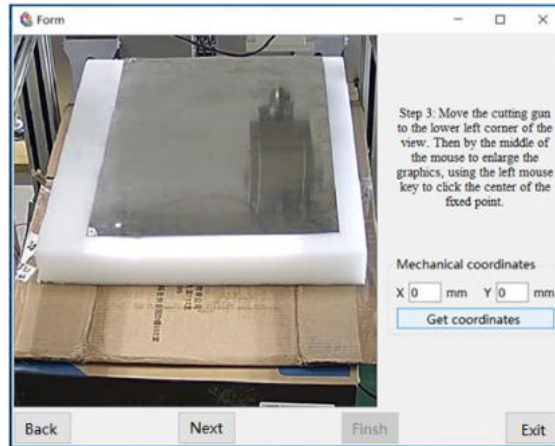

Figure 13.4 Get the second coordinate point
- After the first point is calibration, click "Next" to complete the second calibration point, operate the machine tool to move the gun to the lower left corner of the view, click the middle mouse button to enlarge the figure, click the center of the calibration point with the left mouse button, click the "Get coordinates" button in the interface to obtain the mechanical coordinates X, Y, as shown in Figure 13.4: